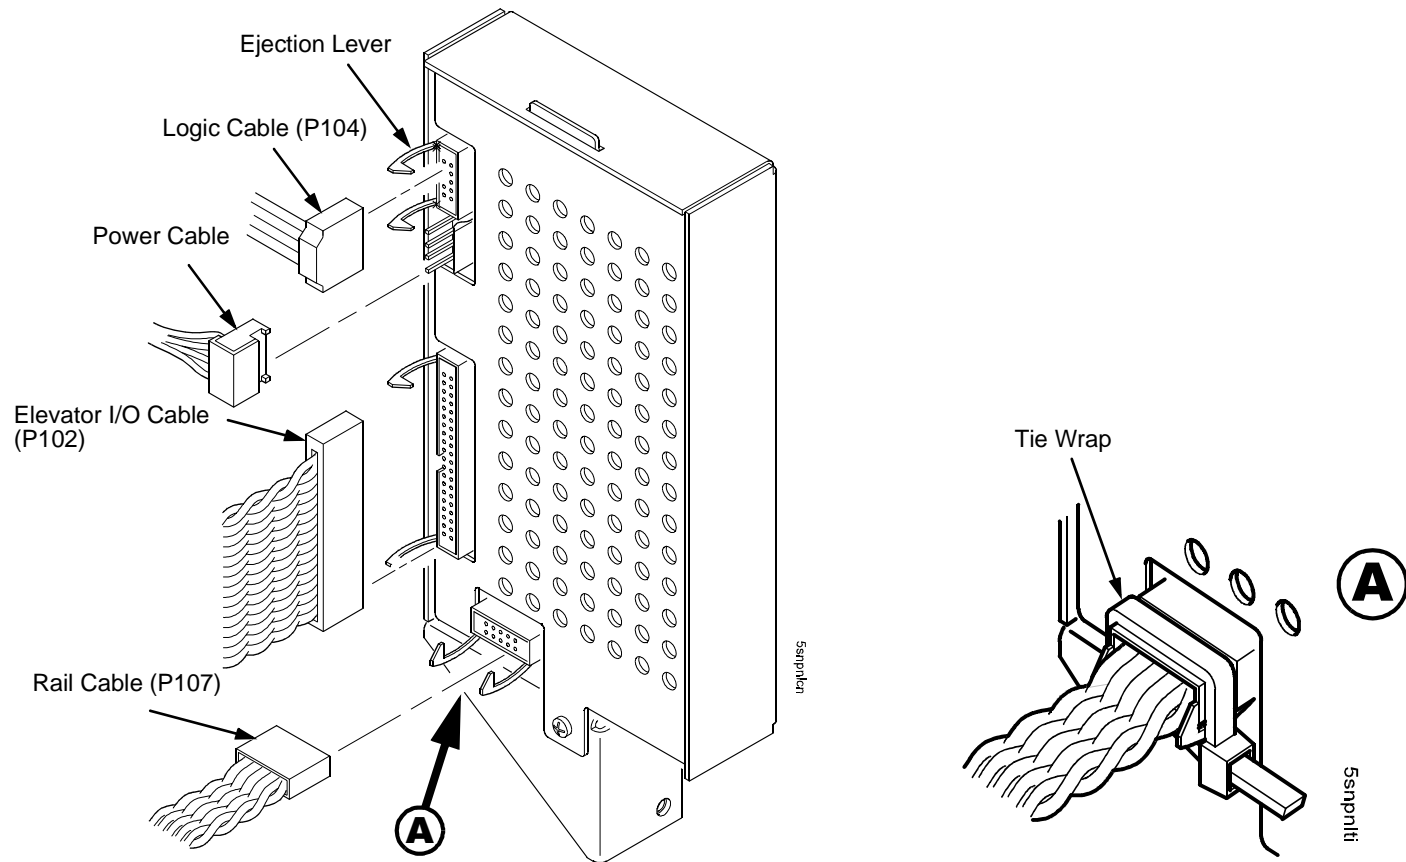

Figure 91. This figure shows how to install the operator panel cables to the rear of the stacker operator panel.
21. Connect the stacker cables to the rear of the stacker operator panel assembly and make sure the ejector levers close over the connectors. (Figure 91.)
22. Press rail cable connector P107 into the operator panel until the ejectors close, then tie wrap the ejectors to the connector. (Figure 91, detail.)